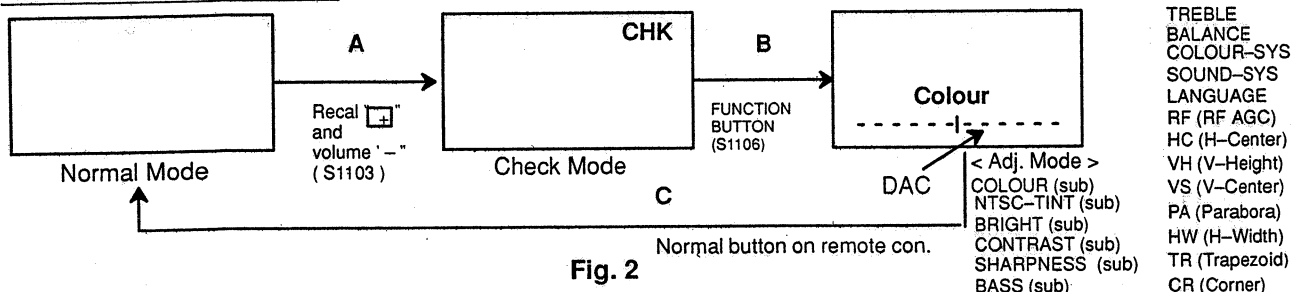

Fig. 2
- A: Simultaneously press the Recall button [] on the remote control unit and the VOLUME DOWN button [-] (on the TV set).The TV in the Normal mode changes to check mode. "CHK" will appear on the screen as shown in Fig. 2.
B: Press the Function button (S1106) to select the required adjustment to be adjusted as shown in Fig. 2.